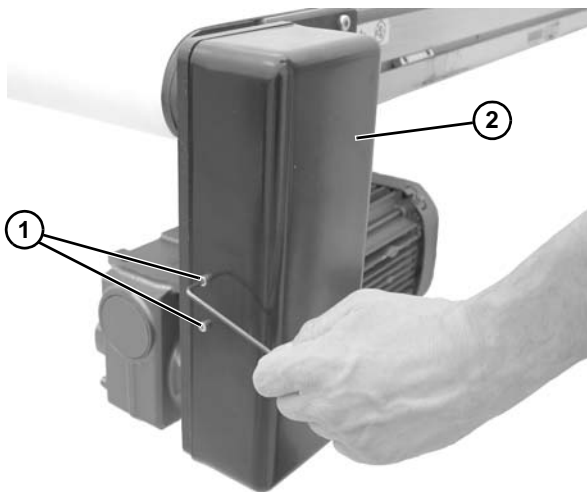

Figure 18
1. Remove four (4) screws (Figure 18, item 1) and remove cover (Figure 18, item 2).
6. Install cover (Figure 18, item 2) with four (4) screws (Figure 18, item 1). Tighten screws to 35 in-lb (4 Nm).